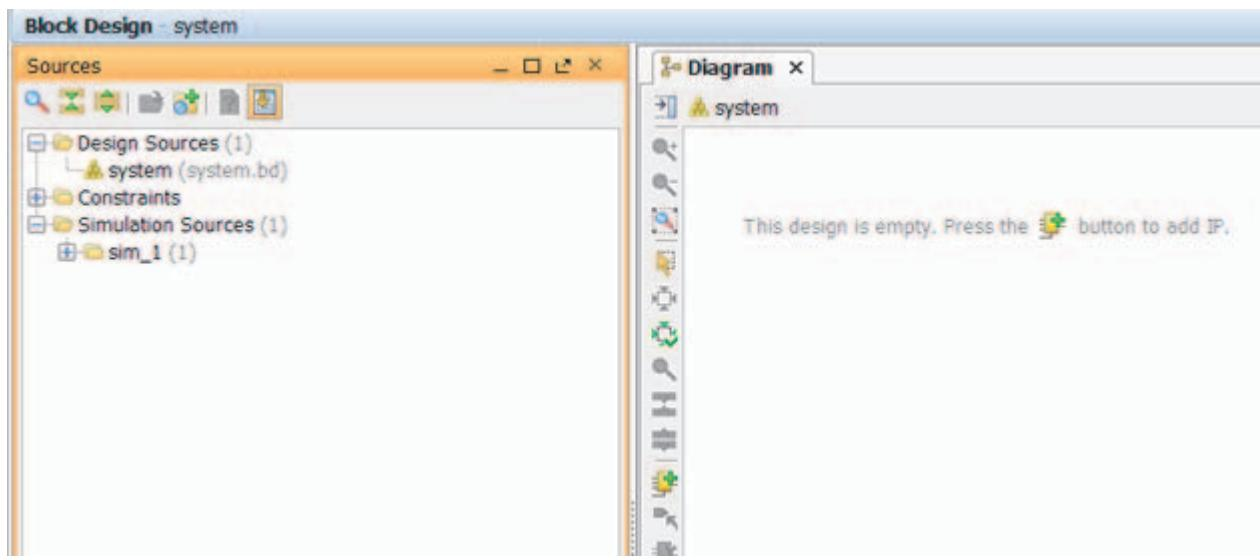

Figure 15: Diagram Pane
- c. The upper-right pane now has an empty **Diagram** tab, as shown in Figure 15.